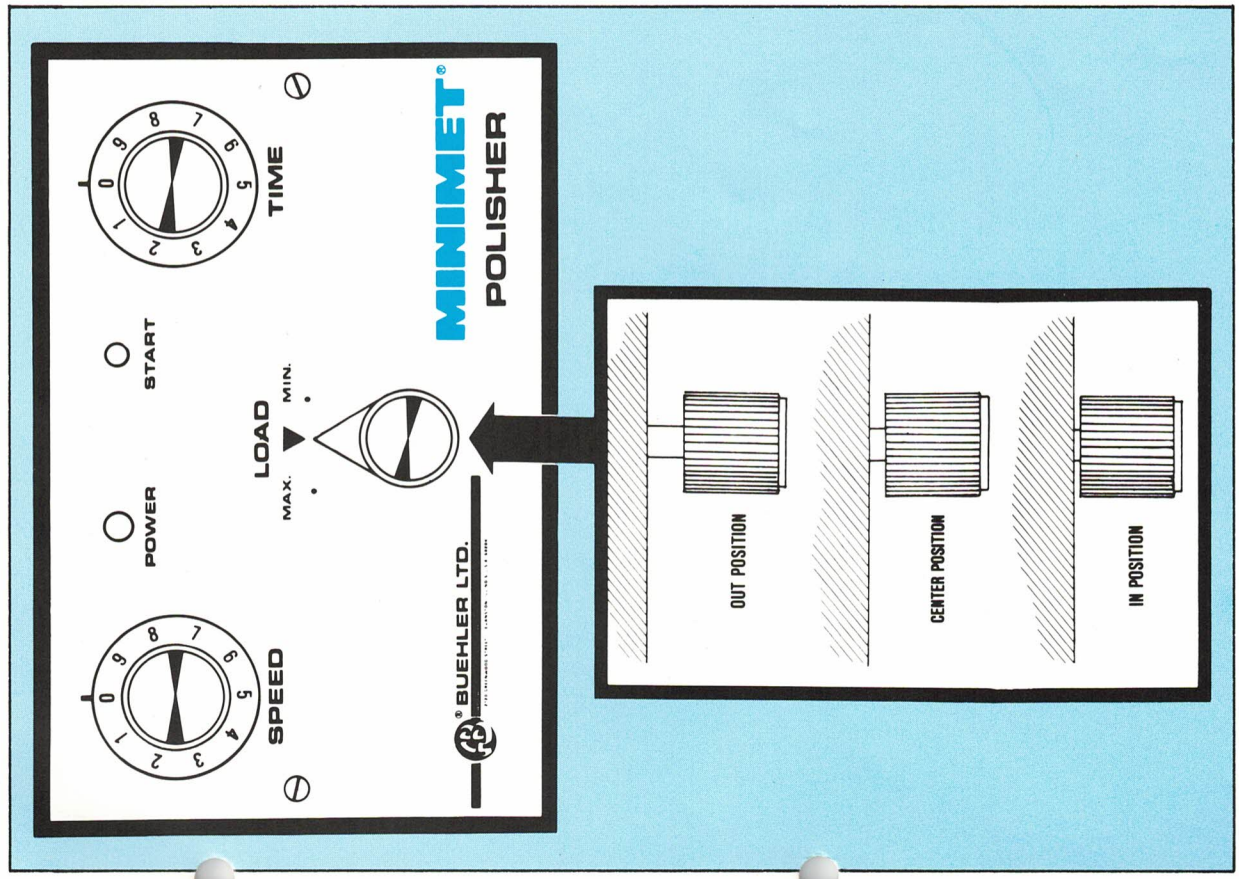

Figure 4. MINIMET® Control Panel
Operating conditions are determined by the controls on the front panel of the MINIMET® as shown in Figure 4.
**Load:** A variable load from 0 to 4 lbs. in two distinct modes, as shown in the inset of Figure 4, may be applied to the specimen.